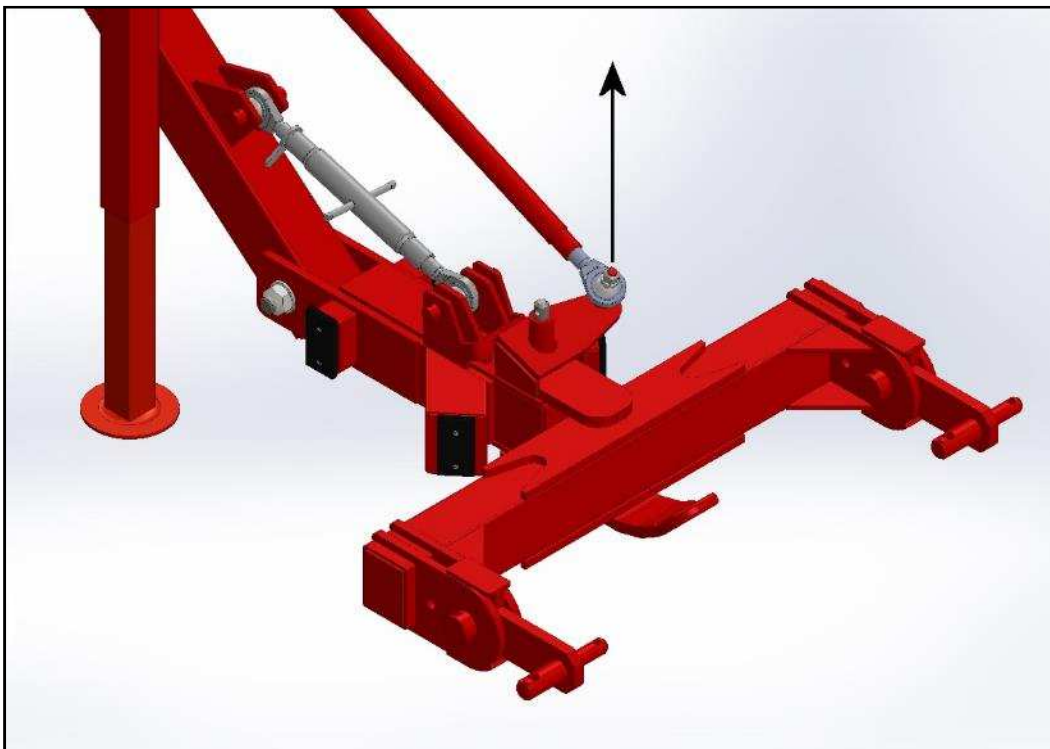

Figure 17
- Uncouple the front part of the moving steering mechanism (locked steering) (see Figure 17).